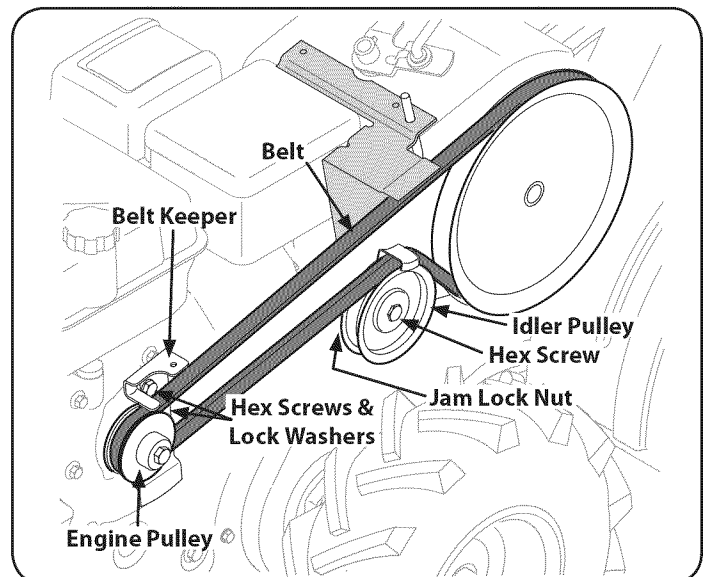

Figure 29
3. Remove the belt keeper assembly located behind the engine pulley by removing the two hex screws and lock washers. See Figure 29.